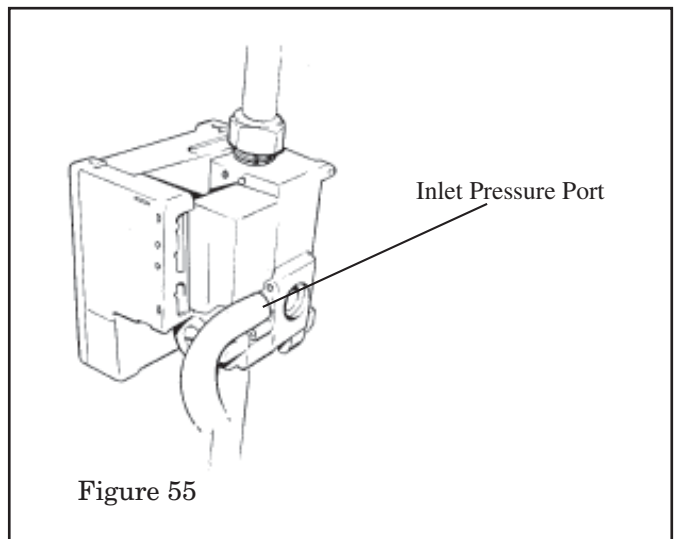

Figure 55
5. Attach flexible tubing from manometer to the inlet pressure port. See Figure 55.